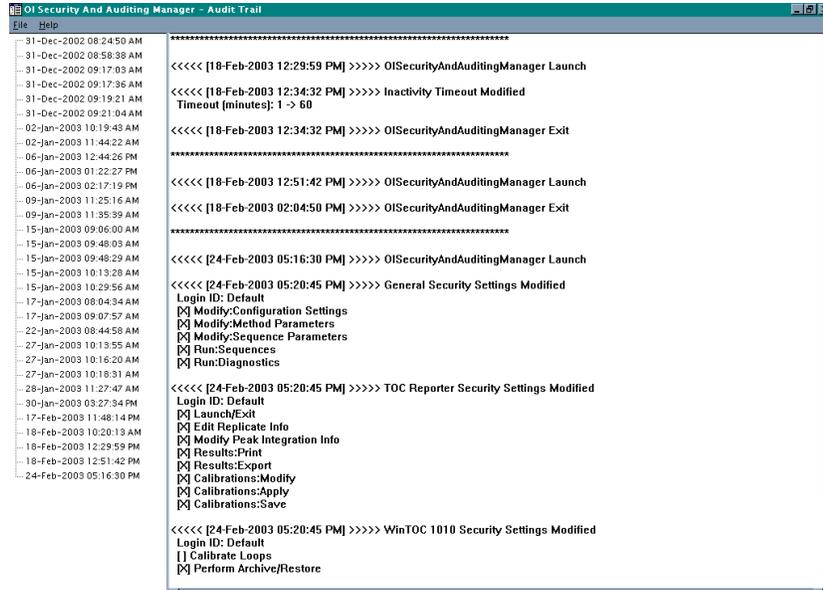

Figure 6.6. Audit trail
1. From the Security and Auditing Manager screen, go to the **File** menu and select **View Audit Trail**. The audit trail will be displayed (Figure 6.6.).